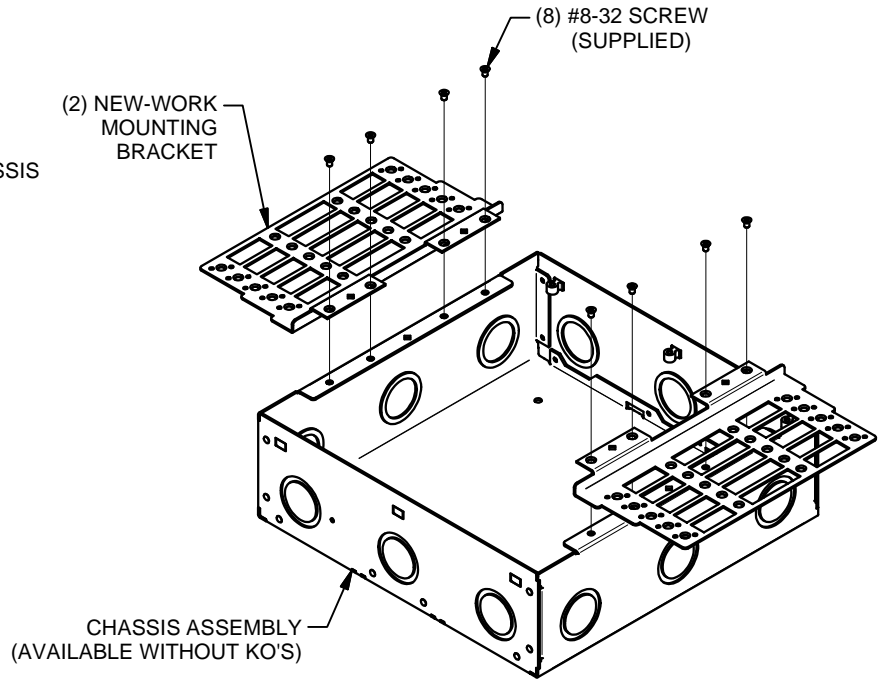

FIGURE 15
1. INSTALL (2) MOUNTING BRACKET TO CHASSIS ASSEMBLY AS SHOWN IN FIGURE 15.